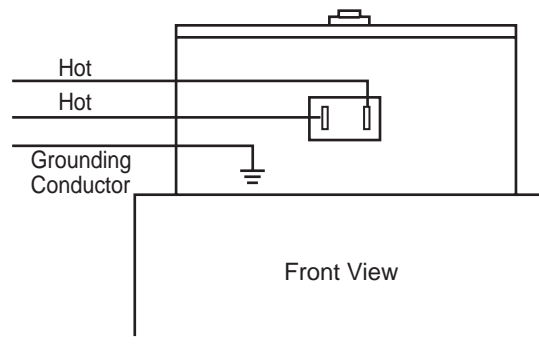

Figure 19
- Remove junction box cover and install the required bushing into the 3/4 in. Knock out. With the supply voltage turned off, route three (3) wires into junction box for connections. (See Fig. 19.)